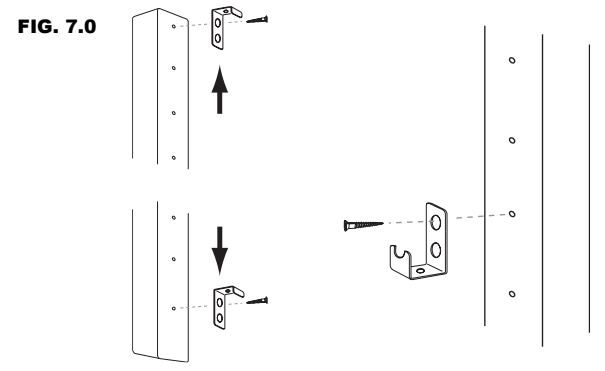
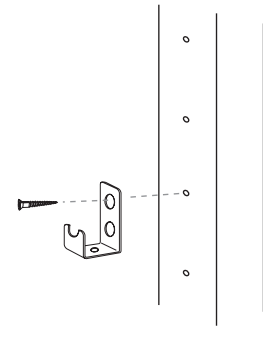

FIG. 7.0
FIG. 7.1
- To install Vertical Support Clips onto (D) remaining Vertical Support Bars, place brackets at top and bottom hole location as shown (Fig. 7.0) and secure onto Vertical Support Bars using #6 3/4" screw.
- Position L-Hooks onto (D) Vertical Support Bars at locations provided (Refer to selected configuration layout).
- Secure L-Hooks using #6 3/4" screw in the top hole location. (Fig. 7.1).